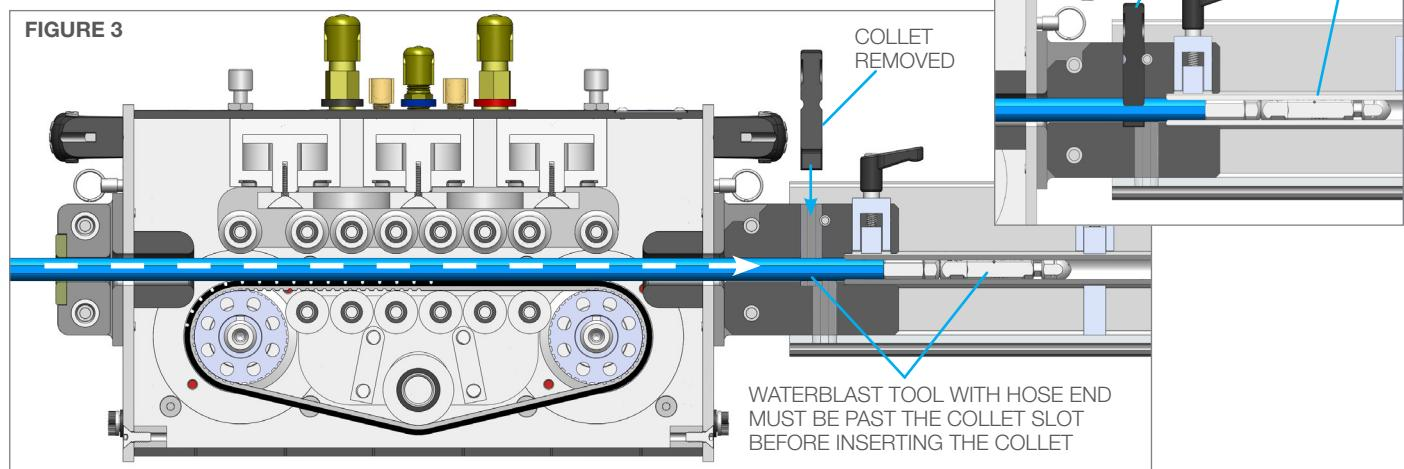

**FIGURE 1**
1. Remove Quick Release Pin and pull out existing Collet. Select the appropriate Collet size for the diameter of the hoses. (See the "Recommended Collets For Common Hose Sizes" plaque on the top plate of the AUTOBOX® (ABX-3L) Hose Tractor.) (**Figure 1**)